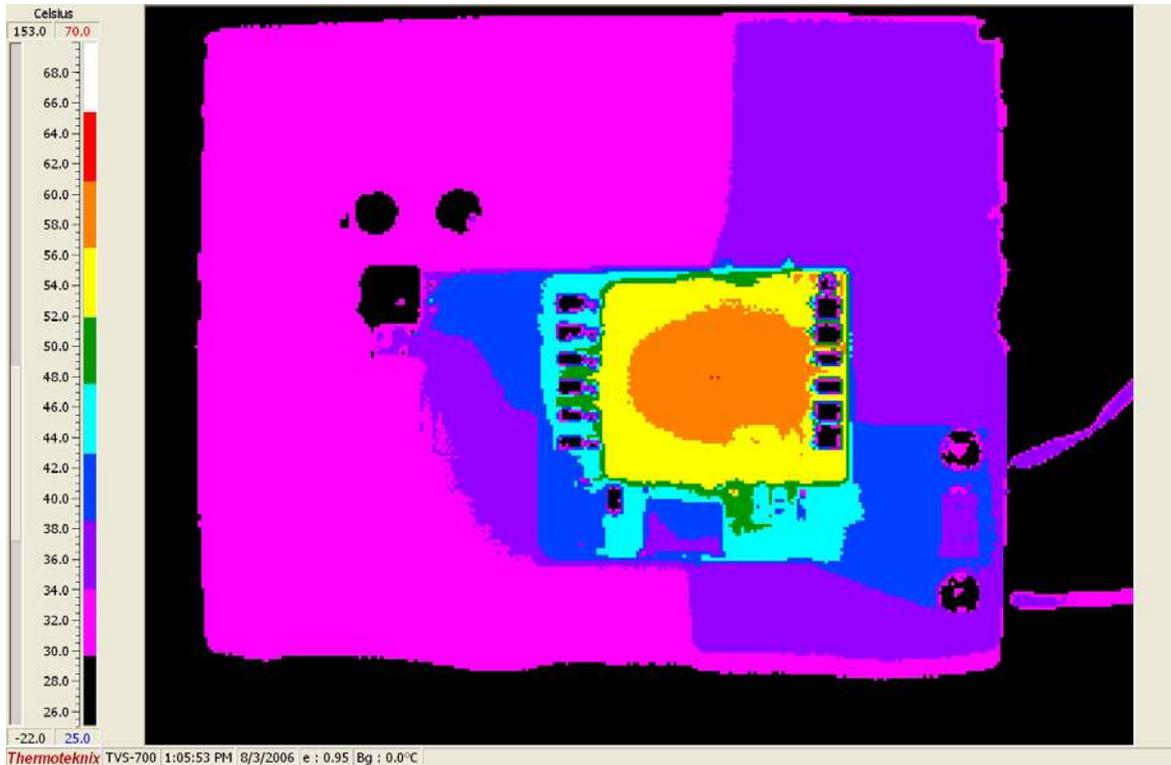

Figure 9. Temp Data (48Vin, 8A, no airflow – front)
The LT3825 controller exhibits a self-starting capability. When an input voltage is applied, a trickle charge resistor, R8, charges C10 (See Figure 9) to power V_{cc}. Then, the IC begins a controlled soft-start of the output voltage. As this voltage begins to rise, V_{cc} power is quickly taken over by T1, D2, and R7. When the soft-start period is over, the LT3825 then regulates output voltage by observing the pulses across the auxiliary winding of T1 during the flyback time. The Primary Gate drive (PG) and Synchronous Gate (SG) drive is then Pulse Width